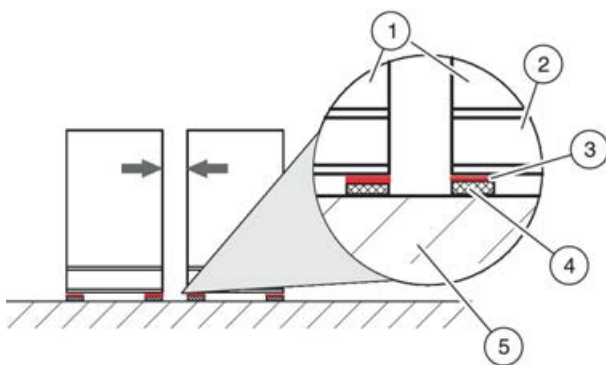

Fig. 13: Unit arrangement with anti vibration elements
Slide plates (Fig. 13 /3) considerably simplify the process of positioning the AHU casing units (Fig. 13 /1) on a surface with a high friction coefficient, such as rubber or elastomer sheets (Fig. 13 /4).
- 1 ▶ Position the slide plates (Fig. 13 /3, by others) under the base frames (Fig. 13 /2) of the AHU casing units (Fig. 13 /1).